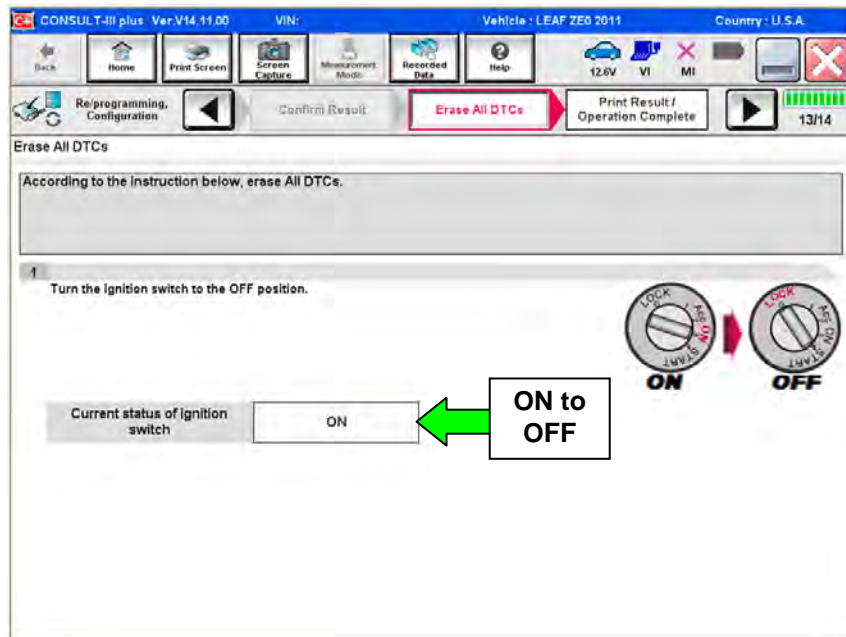

Figure 52
- The screen in Figure 52 will read **OFF** after pressing the power switch once.